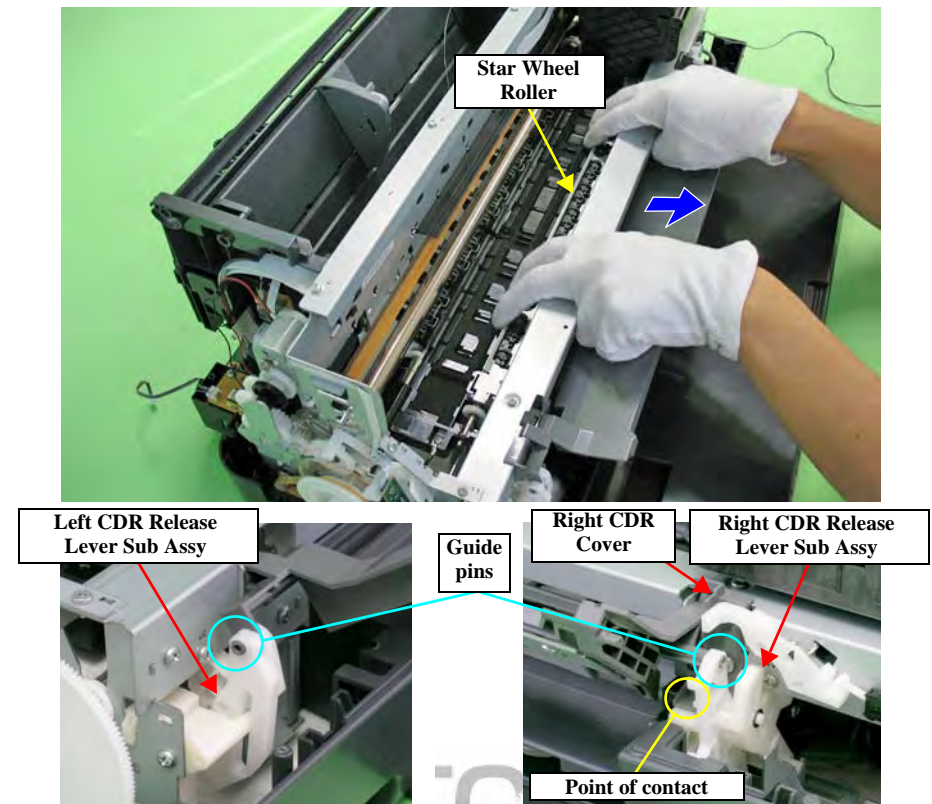

Figure 4-107. Removing the Paper EJ Frame Assy
- Tighten the screws in the order shown in Figure 4-107